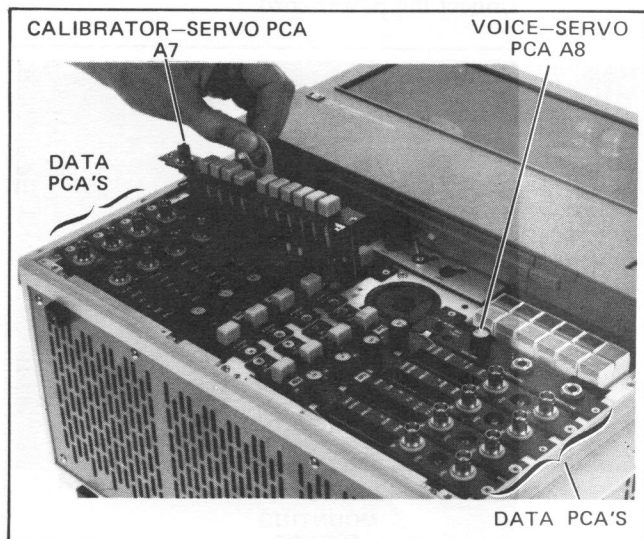

Figure 5-56. Calibrator-Servo PCA, Voice-Servo PCA and Data PCA Removal
c. Identify the PCA to be replaced as illustrated in Figure 5-56.
e. Lift extractor ring from concealed to extended position with fingernail or flat bladed screwdriver (see Figure 5-56).